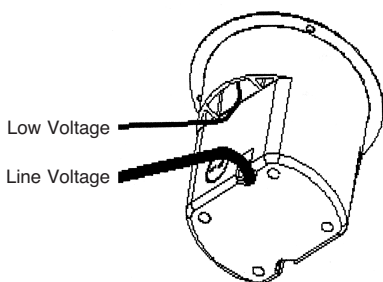

Figure 3
- Low and line voltage cannot be installed in the same cavity per the National Electrical Code. (See Figure 3)